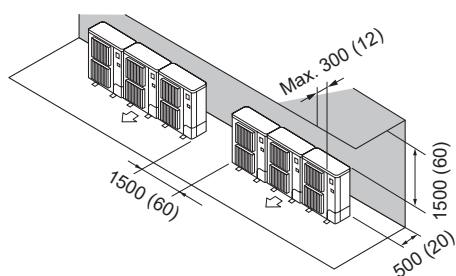

Fig. 2-13
- (2) Obstacles at rear and above only (Fig. 2-13)